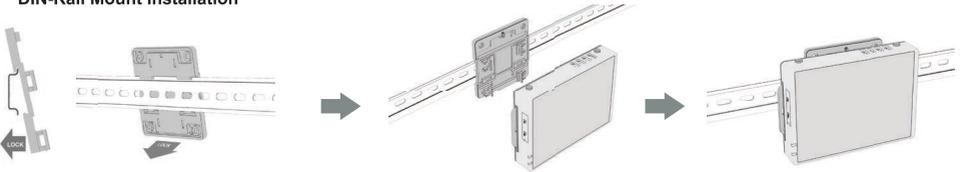

Figure 6
- Step 1. Affix the mount bracket to the DIN rail (as shown in Figure 6).